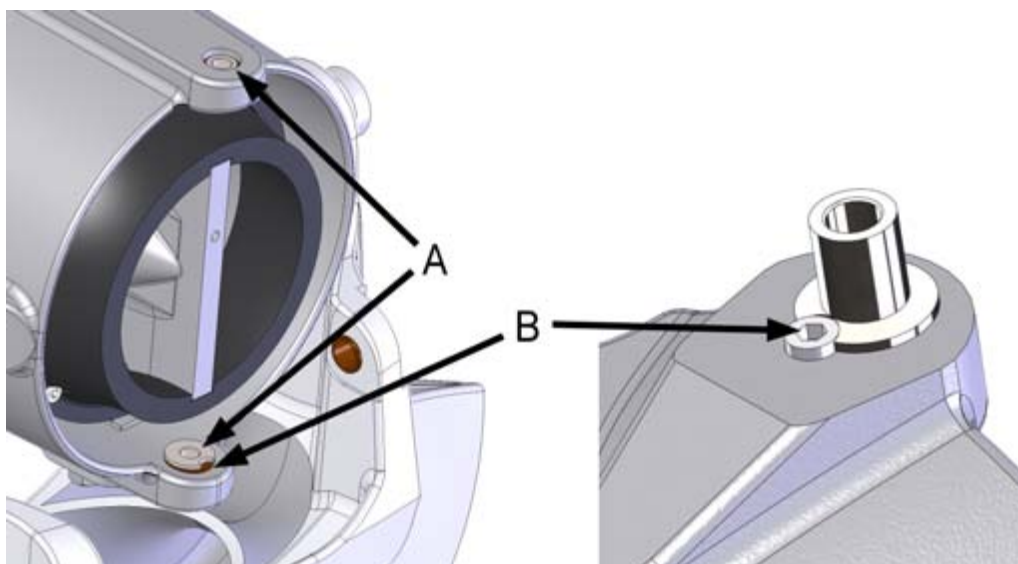

Figure 78. Nozzle joint pegs
1. Place the joint pegs in the stator holes (figure 78, point A) and install the steering nozzle.
The upper peg must be held in place while guiding the steering nozzle in place. The screws in the joints of the steering nozzle go in the joint peg holes (figure 78, point B)